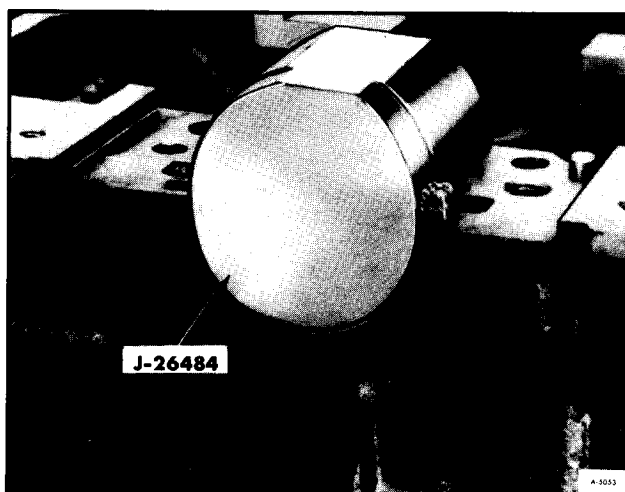

Figure 75—Installing Rear Main Seal-Upper Half
3. Install a new rear main bearing upper seal. Use tool J-26484 as shown in Figure 75.